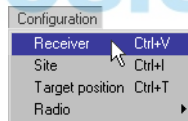

Figure 2-13. Configuration->Receiver
2. Once connected, start PCView and click on **Configuration->Receiver** (Figure 2-13).